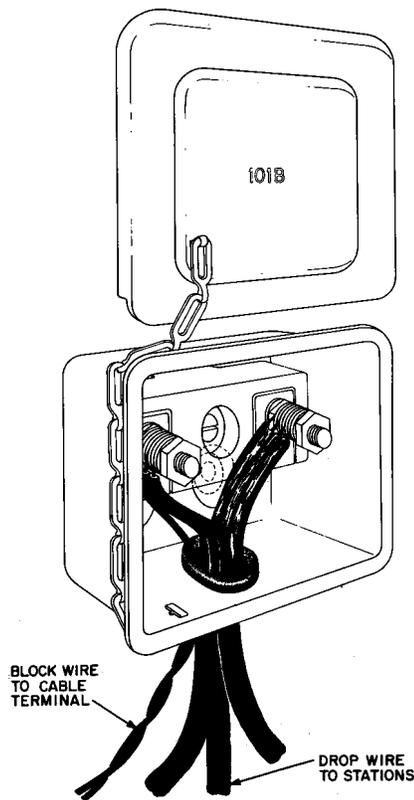

Fig. 12—101B Wire Terminal
2.11 See Section 462-240-120 for a description of the 101-type wire terminals. The 101B2 wire terminal supersedes both the 101A and 101B (Fig. 12) wire terminal. It is used for making party line taps in drop and block wire runs, in distributing drops from cable and open wire lines, and in placing fusible links.